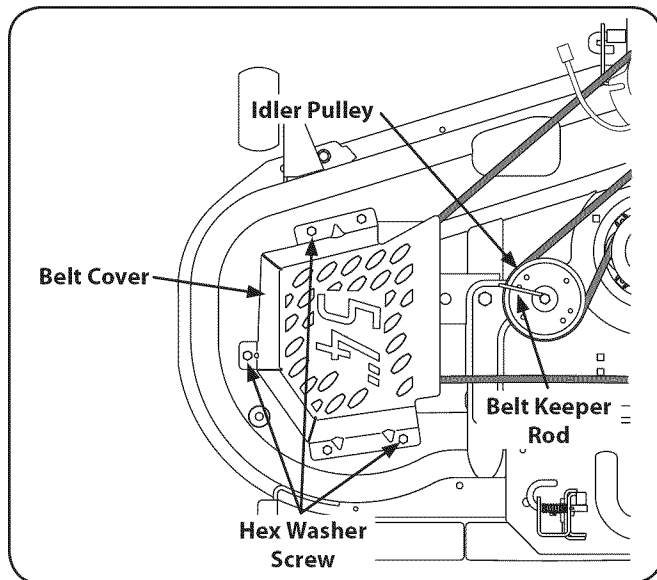

Figure 7-7
2. Remove the belt guards by removing the hex washer screws that fasten them to the deck. See Fig. 7-7.
3. Loosen, but do not remove the belt keeper rod on the pulley located near the back of the deck. See Fig. 7-7.